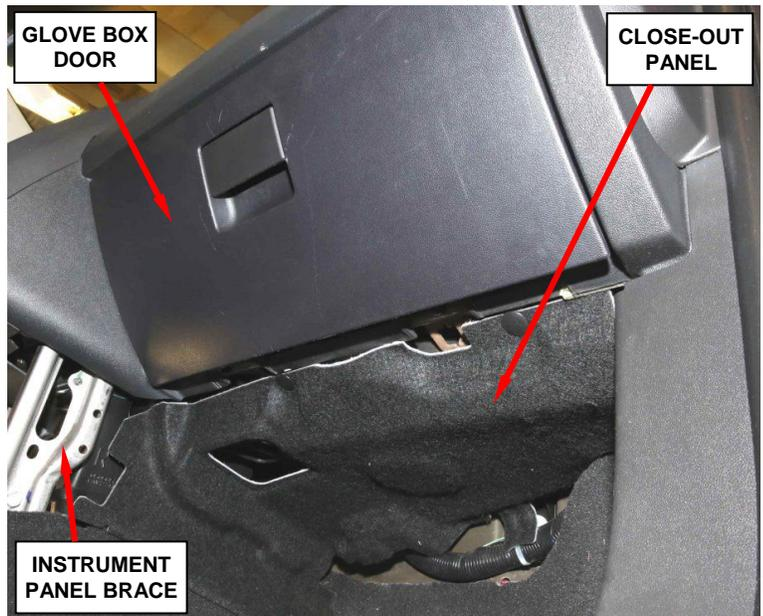

Figure 8 – Right Side Close-Out Panel
5. Remove and save the right close-out panel (Figure 8).